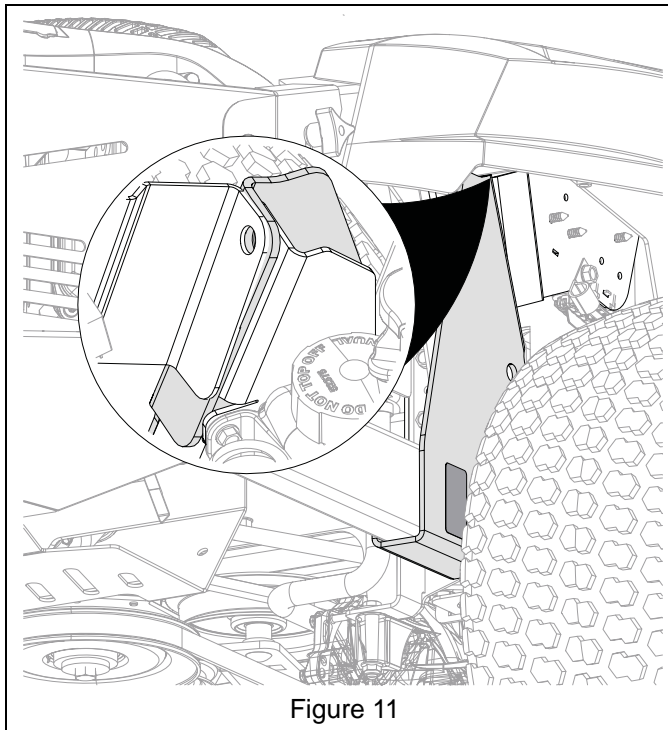

Figure 11
3. From below unit, position right-side support bracket on frame. Ensure that support bracket is positioned between control panel bracket and existing support bracket. See Figure 11.